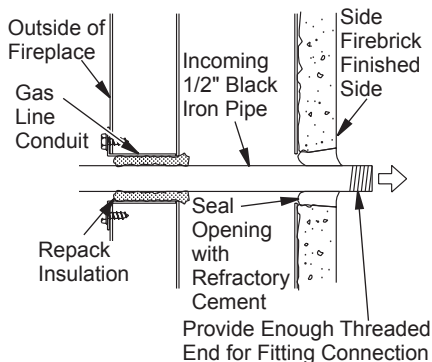

Figure 20 - Gas Line Installation
3. Run a 1/2" black iron gas line into the fireplace through the rear at gas line conduit sleeve (if using a raised platform, add height). Provide sufficient gas line into fireplace chamber for fitting connection (see Figure 20, page 13). *Note: Secure incoming gas line to wood framing to provide rigidity for threaded end.*